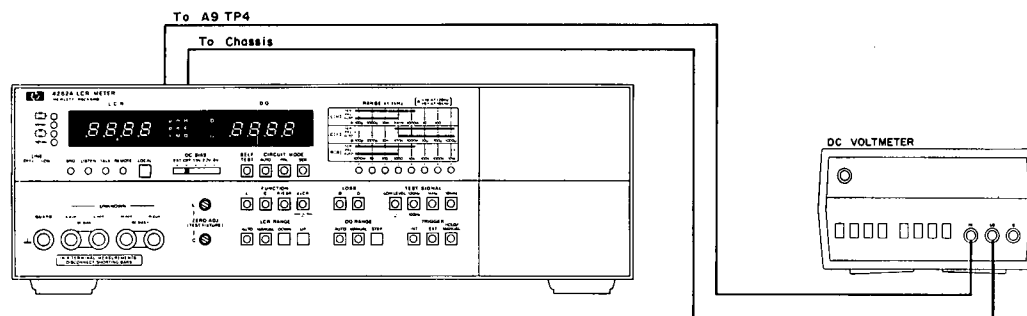

Figure 5-1. Power Supply Voltage Adjustment.
- Connect DC voltmeter plus input to test point A9TP4 (+12V) and minus input to 4262A chassis with dual banana plug to alligator clip cable. See Figure 5-1.